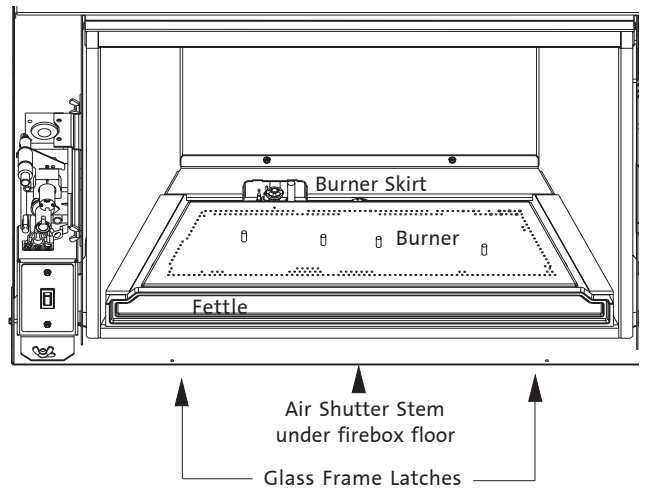

Figure 1. Firebox component identification.
- 1. Remove the Glass Frame, Logset, and Fettle and Burner Skirt.** Use the latch release tool, located on right side of the insert, to release the the two spring latches located under the firebox. See fig. 1.
- 2. Loosen the wingnut on the Air Shutter Stem,** located under the center of the firebox floor, and push the stem back as far as it will go. Fig. 1.